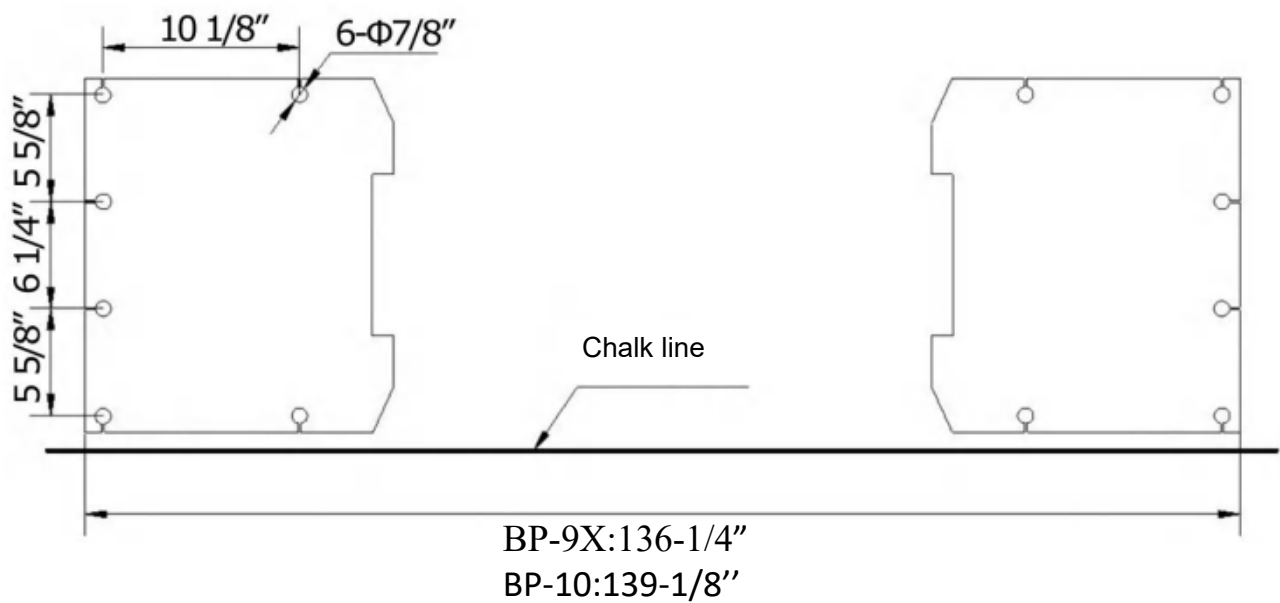

Fig. 6
B. Use a carpenter's chalk line to establish installation layout of baseplate (**See Fig. 6**).